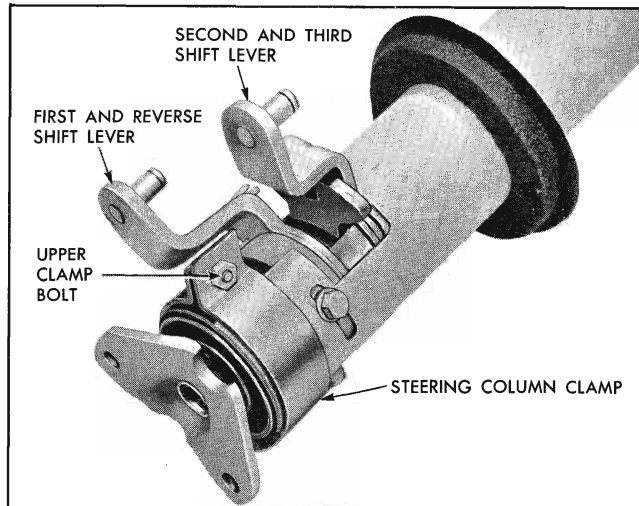

Fig. 9-10 Disconnecting Shifter Rods
1. Disconnect first and reverse shifter rod from lower lever and second and third shifter rod from upper lever at steering column (Fig. 9-10).